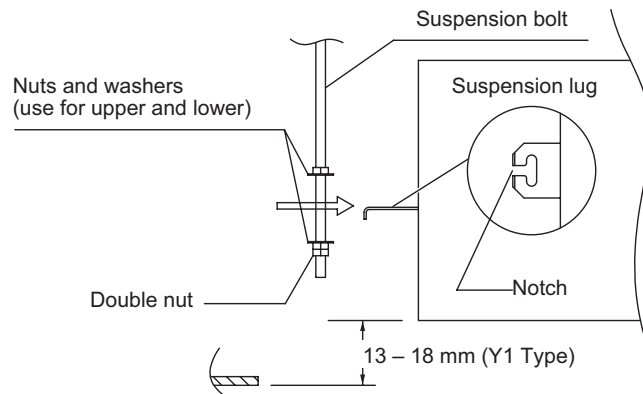

Fig. 2-45
- (3) Thread the 3 hexagonal nuts and 2 washers (field supply) onto each of the 4 suspension bolts (Fig. 2-45). Use 1 nut and 1 washer for the upper side, and 2 nuts and 1 washer for the lower side, so that the unit will not fall off the suspension lugs.